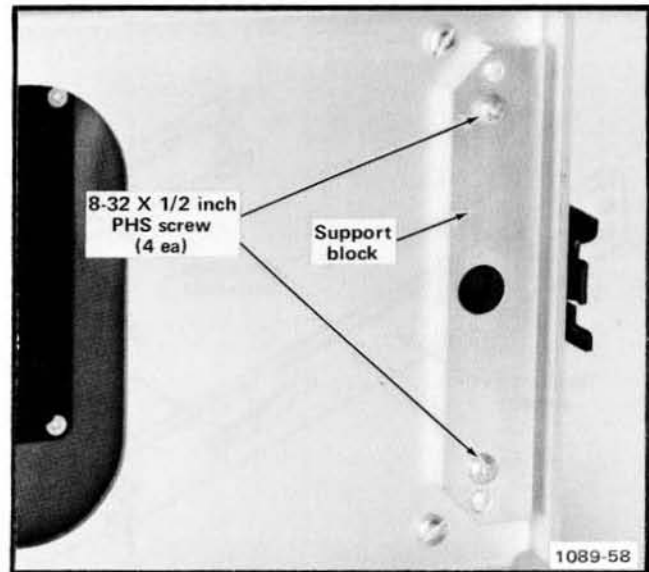

Figure 2-13. Installing the support block on the instrument.
5. Install a support block on each side of the instrument as shown in Figure 2-13.